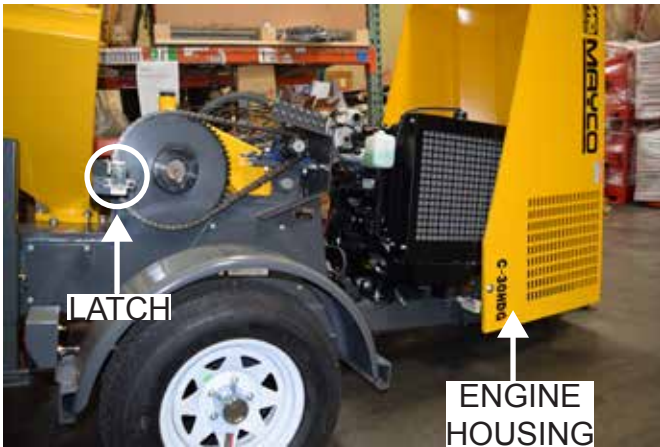

Figure 2. Engine Housing Lifting
2. Release the latches (Figure 2) on the engine housing and pull the housing back.